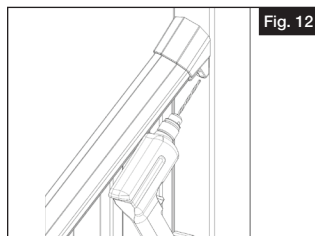
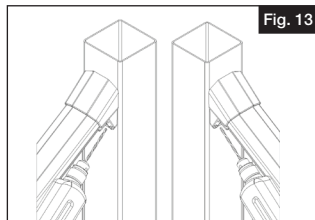

Fig. 12
Fig. 13
- a. Center your bracket on the post. Using the holes in the bracket as a guide, pre-drill one of the lower holes with a $\frac{5}{32}$ " drill bit (Fig 12). Drive one of the #10 x 3" screws through this hole. Pre-drill the other lower hole and drive another 3" screw into it. Now pre-drill the upper 2 holes in the bracket (Fig 13). Drive two more 2" screws into those holes. Be careful not to overtighten.